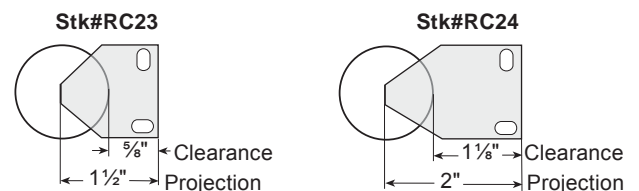

Fig. 3 Mounting Brackets
2. Bracket Sets **RC23** and **RC24** include Clutch Side Bracket and End Plug Side Bracket. (Fig 3)